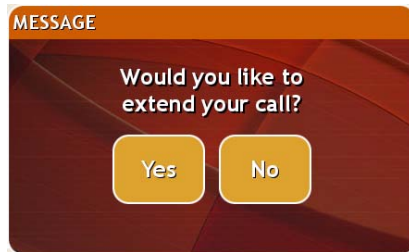

FIG. 90 Extend Call Popup
2. Press the up or down arrows to increment the timeout up by 1 second in each direction. If your call exceeds your session timeout the panel provides you with a popup (FIG. 90) to extend the session.